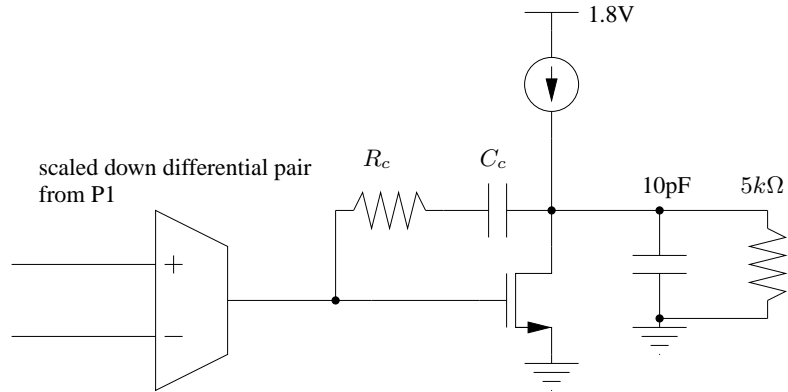

Figure 2: Two stage opamp
1. Design a two stage single ended opamp (Fig. 2) that has a dc gain of at least 1000, and a unity
gain frequency of 50 MHz with a load of 10 pF and 5 k $\Omega$  in parallel. Design the second stage common source amplifier to have a sufficiently high second pole while driving the desired load capacitance. Use a scaled version1 of the differential amplifier in the P1 of the previous assignment for the input stage and use a suitable compensation capacitor (Fig. 2). Ensure that there is no systematic offset because of the second stage bias. Add a zero canceling resistor. Report the following and show simulation results where appropriate.